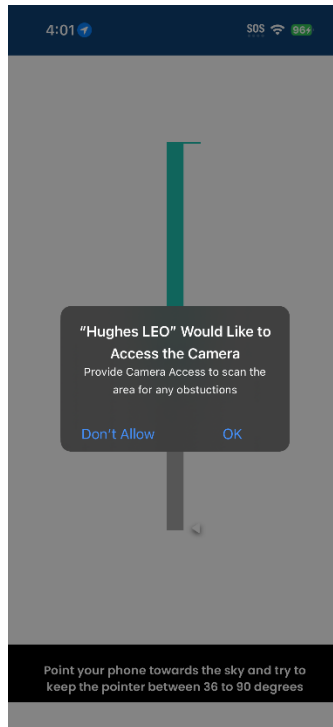

Figure 77: Allowing the app to use the camera on your phone
- The app displays the screen shown in Figure 77 asking you to give your permission for using the camera on your phone for the site survey. If you do not give camera use permission, then the site survey procedure will abort.